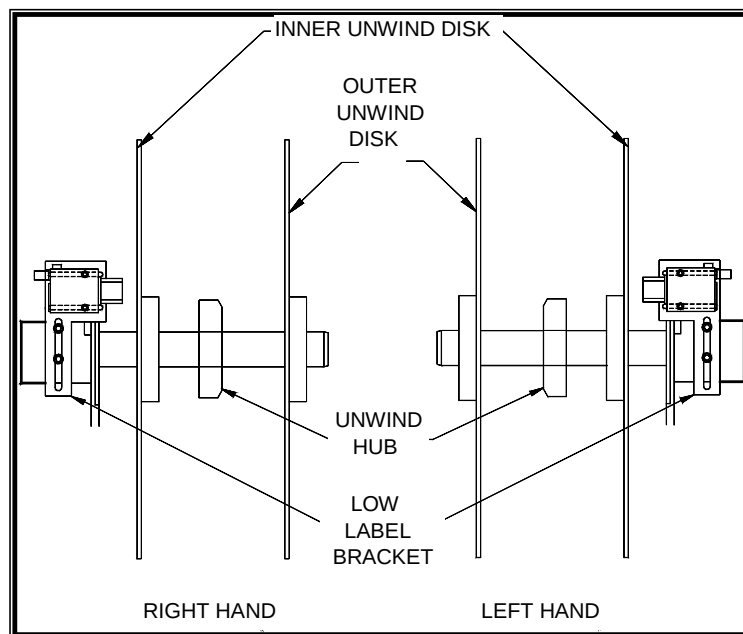

Figure 51 Unwind
3. Use a 9/64 inch hex head wrench to loosen the low label detector's adjustment screws. See Figure 51. Low Label Alarm Adjustments